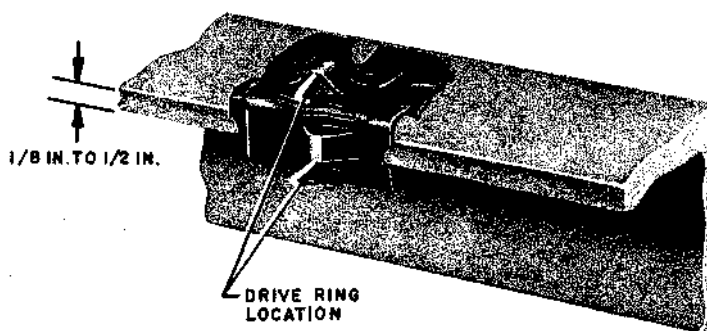

Fig. 3 — B Beam Clip, Bottom View
2.02 A projection is provided on the opposite side and base of the clip (Fig. 3) to accommodate all sizes of drive rings except the 1/2 inch.